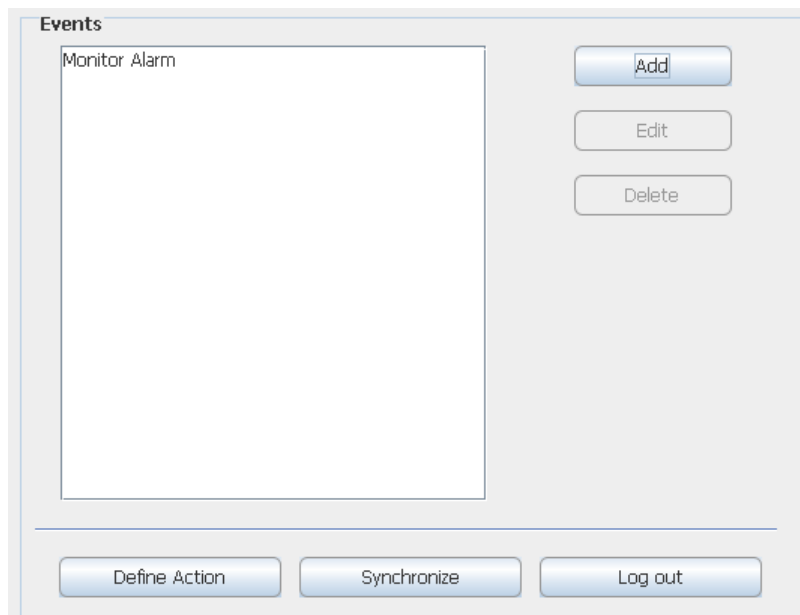

Figure 61. A new Event is added to the Action Configuration page.
- 1 Click "Synchronize" to add all the Events that have been created and configured into to the Event Assignment User interface. See figure 61 on page 55.